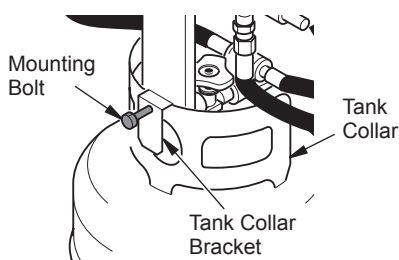

Figure 2 - Assembling Heater
1. Place heater onto tank with tank collar bracket over tank collar (see Figure 2). Mounting bolt should be positioned to the outside of tank collar.